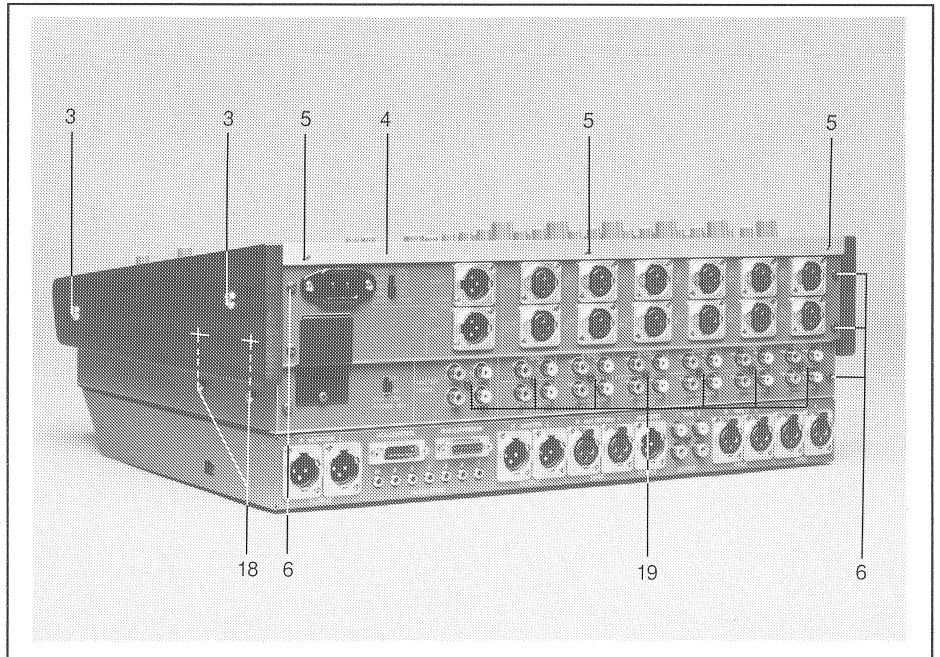

Fig. 3
- Unfasten 2 screws [3] each, Fig. 3.
- Remove the upper trim strip [4], Fig. 3 by unfastening 3 screws [5].
- Unfasten 6 screws [6], Fig. 3, on the rear panel.
- Unfasten 4 screws [18], (fig. 3); two of the screws are located below the side panel.
- Unfasten 7 screws [19], (fig. 3), and remove the bottom cover.